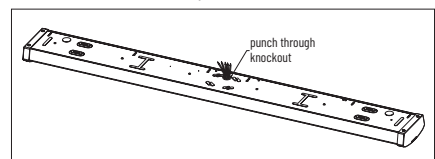

Figure 6
- a. Use a screwdriver to remove out one of the knockouts and take out the cables through the knockout from the housing. (Figure 6)